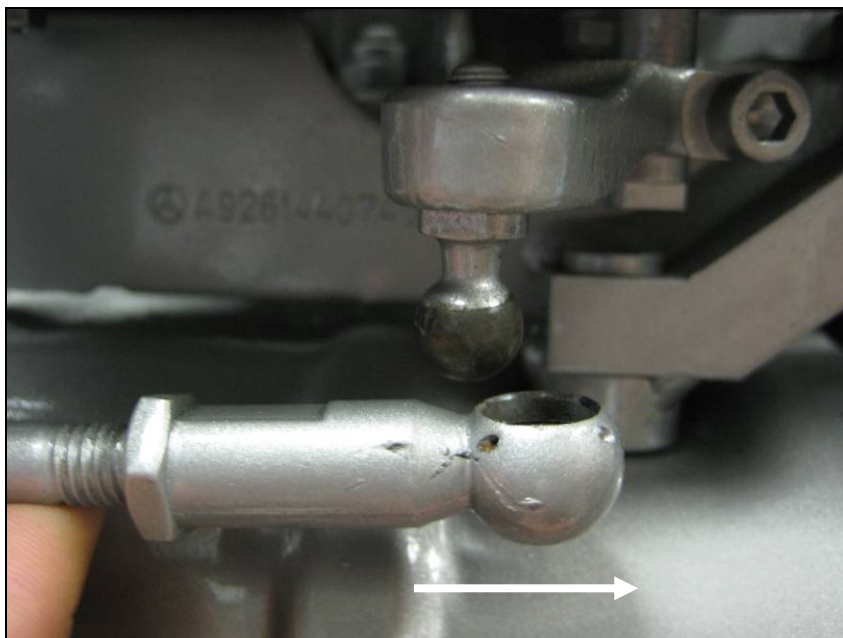

Figure 5 – Smart Remote Actuator Lever Adjustment
8. Adjust the ball joint socket on the actuator end of the linkage rod by extending it three complete turns as shown in Figure 5.